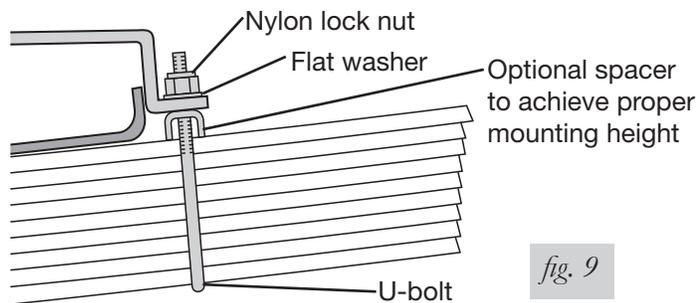

fig. 9
2. If the spacer is not used, attach the lower bracket securely using the provided U-bolts (F or G), flat washers (I), and nylon lock nuts (H) (Fig. 9). Torque to 16 lb.-ft (22Nm).
3. If the spacer is used, place the spacer (O) on the leaf spring and attach the lower bracket securely using the provided lock nuts (H) (Fig. 9). Torque to 16 lb.-ft (22Nm).